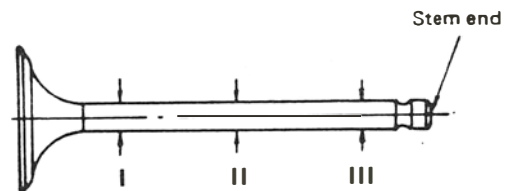

Figure 8
1. Measure the valve stem diameter with a micrometer at three points I, II, and III, Figure 8. Valve stem size and allowable wear limits are listed in "Specifications" page 27. If wear exceeds these limits, replace the valve.